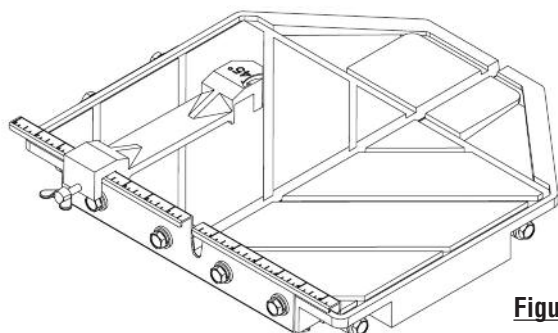

Figure 3
1. The ruler guide has inches marked along the top to allow convenient measurements and to promote precision cuts. *See Figure 3.*